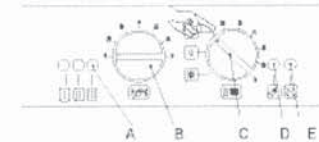

Figure 15.3
With the burner on high flame close the gas cock. After three ignition attempts (within about three minutes), the lock-out signal lamp must appear (D on Figure 15.3). To reset the boiler turn the knob B (figure 15.3) on the 0 position and then press and release the boiler reset button (C on Figure 15.3).
- Turn the function selector C as in Fig. 15.3. The appliance operation light A will flash every 2 seconds.
To reset the boiler turn the knob C (figure 15.3) on the 0 position and then press and release the boiler reset button D (Fig. 15.3).